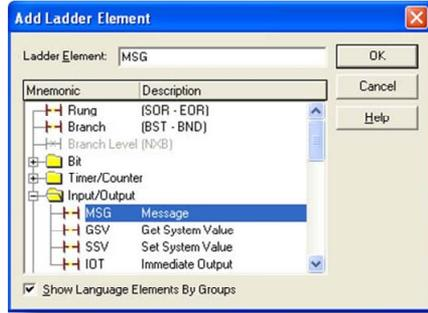

Figure 85: Adding a MSG Instruction
- d) Select the "MSG" instruction in the Input/Output folder. Refer to Figure 85.